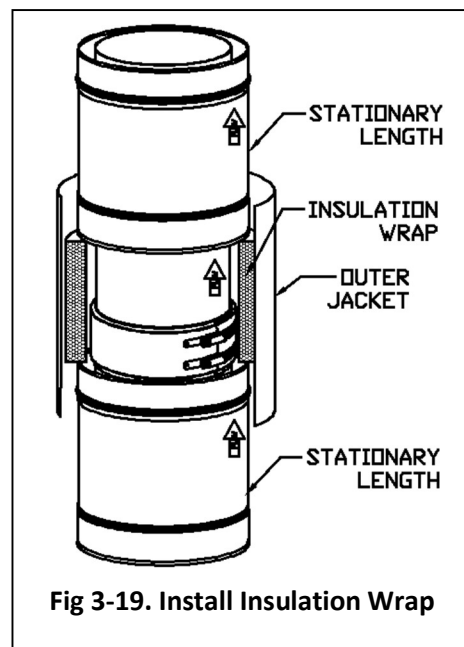

Fig 3-19. Install Insulation Wrap
11. Wrap the inner flue with provided insulation. It may be necessary to trim the insulation wrap to not interfere with the adjoining stationary length (See Fig 3-19).